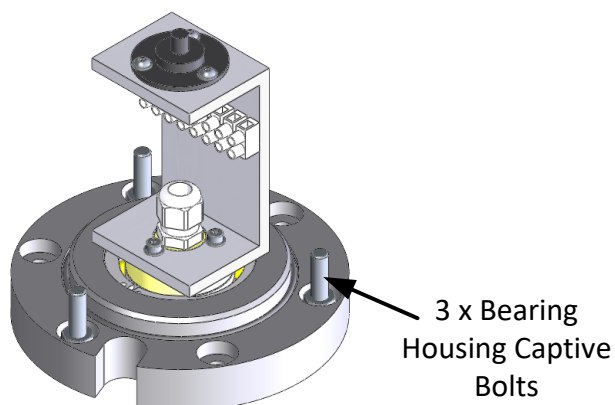

Figure 36: Bearing Housing with Captive Bolts installed
- Ensure that the three Bearing Housing Captive Bolts are installed and the nuts are tightened to hold them in place (Figure 36).